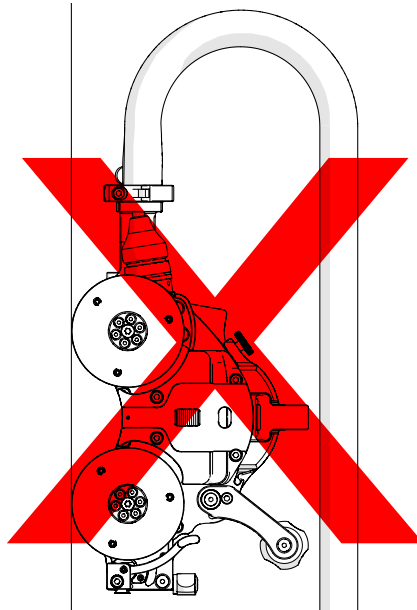

Fig. 73 - Incorrect umbilical use
**WARNING! FALLING OBJECT HAZARD.** or operating at heights greater than 2 m (6 ft), ensure the umbilical strain relief never points upwards as shown in (Fig. 73). The crawler could fall. **SEVERE INJURY** or **DEATH** could result.
3. Ensure the umbilical strain relief never points downwards during operation (Fig. 73).